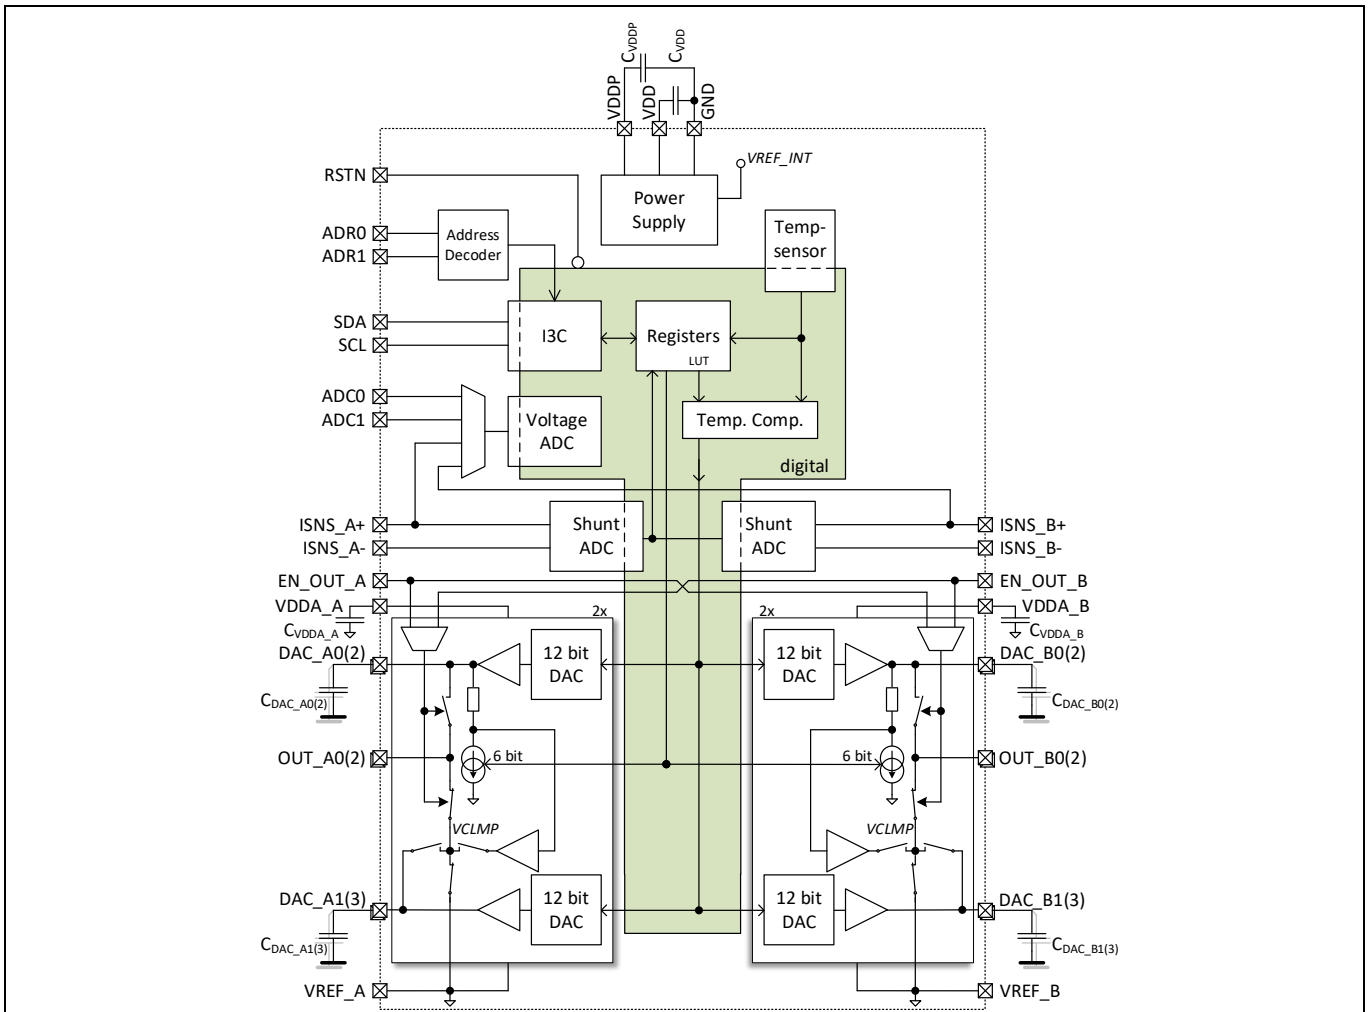
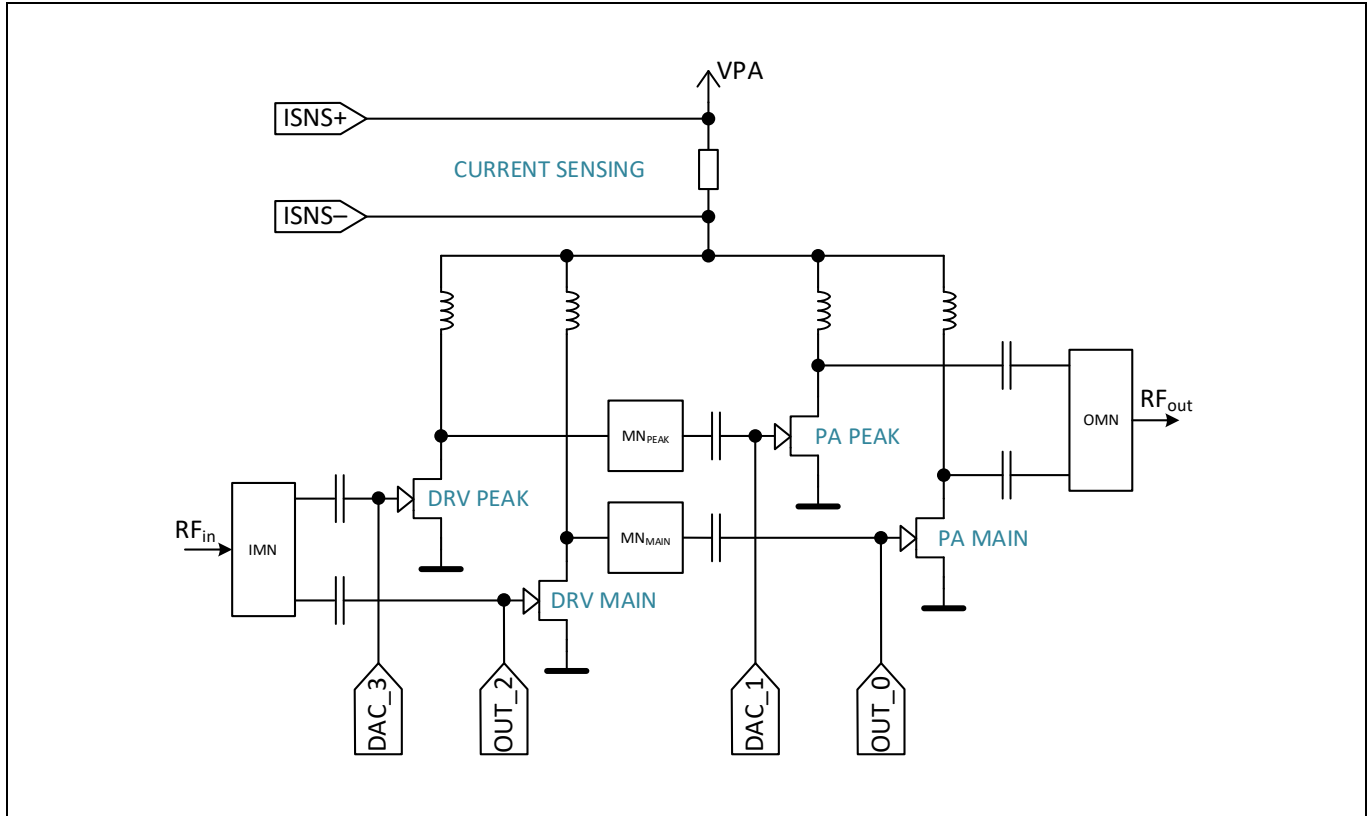

Figure 1 Functional Block Diagram
Figure 2 Typical Power Amplifier application circuit
The BGMC1210 is a bias and control IC for Power Amplifiers (PA) that operate with negative Gate-Source voltages (e.g. GaN) and/or positive Gate-Source voltages (e.g. LD MOS). The BGMC1210 supports up to 2 PAs with 4 DAC outputs per each side of the IC. DACs have a resolution of 12 Bit each, supplied by an internal reference voltage and buffered by an amplifier providing up to 50mA driving current. Block diagram of the BGMC1210 is shown in Figure 1 and simplified typical PA application circuit is shown in Figure 2. The ranges and output voltages can be programmed via an I3C interface, which is backward compatible with I²C. The DACs are separated into two groups A and B, which can support independent output voltage ranges. Supported output voltage ranges are 0...7 V and 0...3.5 V, which can be offset into negative voltage domain depending on the selected DAC supply voltage for corresponding group at pins VREF_A/VREF_B and VDDA_A/VDDA_B. Thus, four DACs can support positive voltage range of 0...+7V or 0...+3.5V, whereas the other group of four DACs can support negative voltage range of -7...0V or -3.5...0V (or any range in between defined by lower DAC supply voltage at pins VREF_A/VREF_B, such as e.g. -6...+1). On top of that there is an OFFSET parameter, which allows to shift the voltage within the supply range.